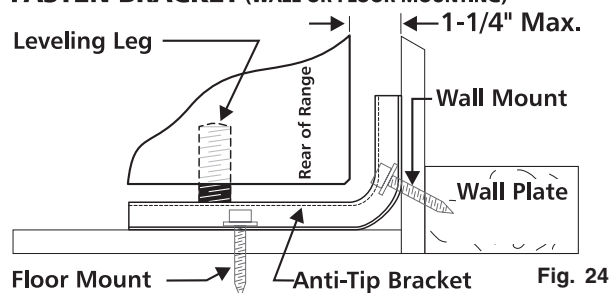

Fig. 24
- 1. Locate the Bracket Using the Template** - (Bracket may be positioned on either the left or right side of the range. Refer to Figs. 24 thru 26 to position the bracket if template is not available). Mark the floor or wall where left or right side of the range will be located. If rear of range is against wall or no further than 1-1/4" from wall when installed, you may use the wall or floor mount method. If molding is installed and does not allow the bracket to fit flush against wall, remove molding or mount bracket to floor. For wall mount (Fig. 24), locate the bracket by placing the back edge of the template against rear wall and the side edge of the template on the mark made referencing the side of the range. Place bracket on top of template and mark location of the screw holes in wall. If rear of range is further than 1-1/4" from wall when installed, attach bracket to the floor. For floor mount (Figs. 24 or 25), locate the bracket by placing back edge of the template where the rear of the range will be located. Mark the location of the screw holes shown in template.